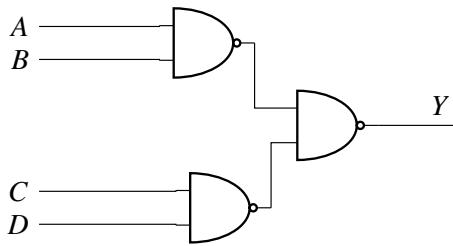

Fig. 3.21
38. In the logic circuit shown in Fig. 3.21, Y is given by